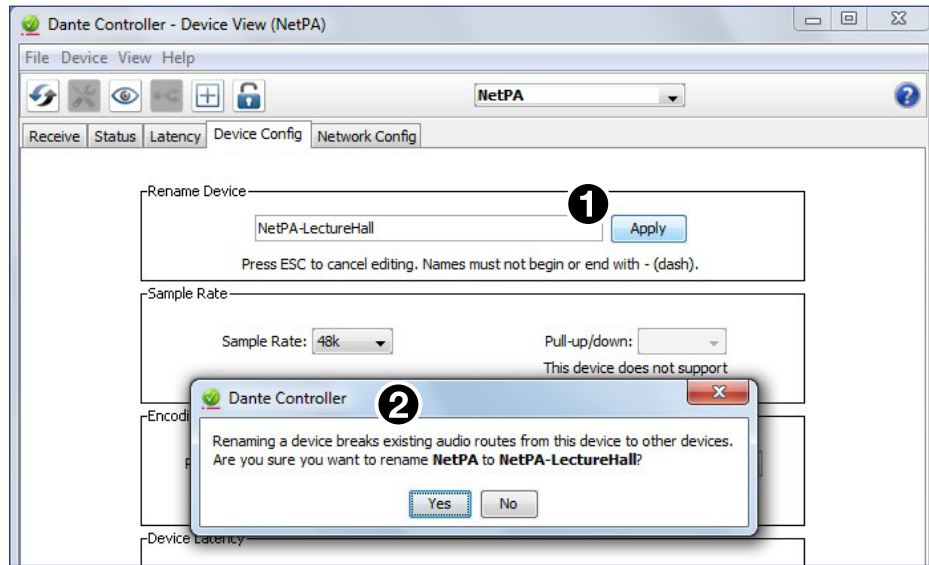

Figure 16. Warning Message
- Click **Apply** (see figure 16, ①). A warning opens (②).